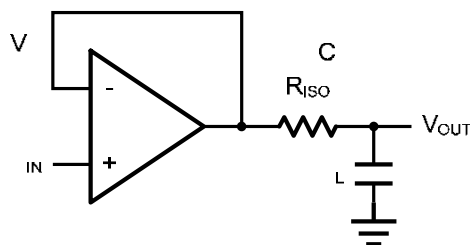
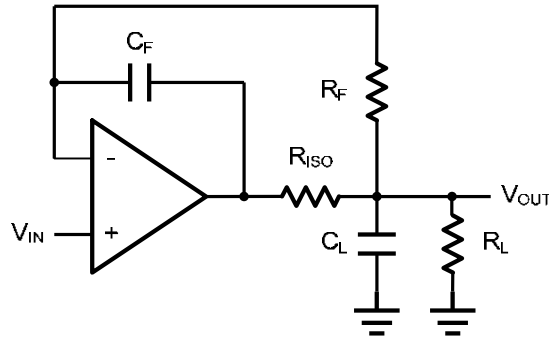

Figure 2 Indirectly Driving a Capacitive Load Using Isolation Resistor
Figure 3. Indirectly Driving a Capacitive Load with DC Accuracy
The HAD854X family is optimized for bandwidth and speed, not for driving capacitive loads. Output capacitance will create a pole in the amplifier's feedback path, leading to excessive peaking and potential oscillation. If dealing with load capacitance is a requirement of the application, the two strategies to consider are (1) using a small resistor in series with the amplifier's output and the load capacitance and (2) reducing the bandwidth of the amplifier's feedback loop by increasing the overall noise gain. Figure 2 shows a unity gain follower using the series resistor strategy. The resistor isolates the output from the capacitance and, more importantly, creates a zero in the feedback path that compensates for the pole created by the output capacitance.
The circuit in Figure 3 is an improvement to the one in Figure 2. R_F provides the DC accuracy by feed-forward the V_{IN} to R_L . C_F and R_{ISO} serve to counteract the loss of phase margin by feeding the high frequency component of the output signal back to the amplifier's inverting input, thereby preserving the phase margin in the overall feedback loop. Capacitive drive can be increased by increasing the value of C_F . This in turn will slow down the pulse response.